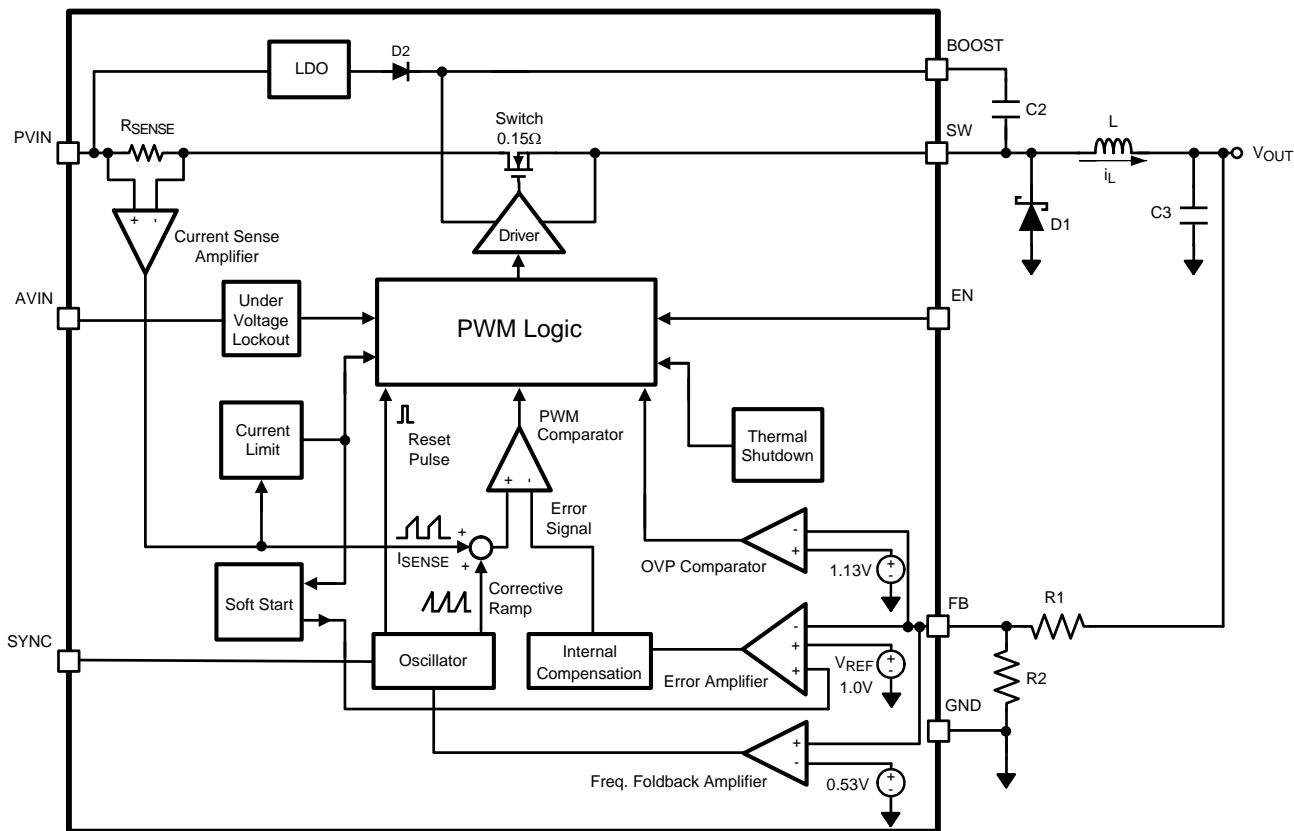
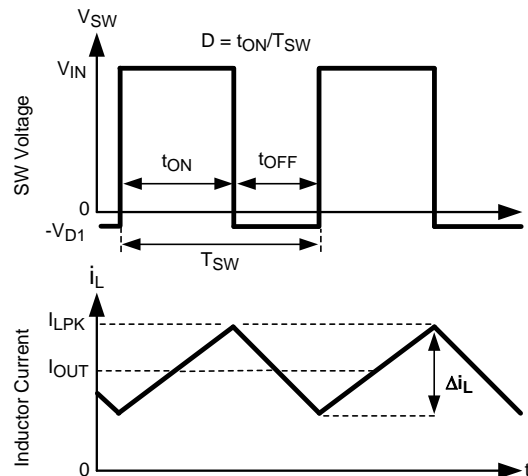

Figure 31.
Figure 32. LM27341/LM27342 Waveforms of SW Pin Voltage and Inductor Current
The following operating description of the LM27341/LM27342 will refer to the Block Diagram (Figure 31) and to the waveforms in Figure 32. The LM27341/LM27342 supplies a regulated output voltage by switching the internal NMOS switch at a constant frequency and varying the duty cycle. A switching cycle begins at the falling edge of the reset pulse generated by the internal oscillator. When this pulse goes low, the output control logic turns on the internal NMOS switch. During this on-time, the SW pin voltage (V_{SW}) swings up to approximately V_{IN} , and the inductor current (i_L) increases with a linear slope. The current-sense amplifier measures i_L , which generates an output proportional to the switch current typically called the sense signal. The sense signal is summed with the regulator's corrective ramp and compared to the error amplifier's output, which is proportional to the difference between the feedback voltage (V_{FB}) and V_{REF} . When the output of the PWM comparator goes high, the switch turns off until the next switching cycle begins. During the switch off-time (t_{OFF}), inductor current discharges through the catch diode D1, which forces the SW pin (V_{SW}) to swing below ground by the forward voltage (V_{D1}) of the catch diode. The regulator loop adjusts the duty cycle (D) to maintain a constant output voltage.
Capacitor C_2 in Figure 31, commonly referred to as C_{BOOST} , is used to store a voltage V_{BOOST} . When the LM27341/LM27342 starts up, an internal LDO charges C_{BOOST} via an internal diode, to a voltage sufficient to turn the internal NMOS switch on. The gate drive voltage supplied to the internal NMOS switch is $V_{BOOST} - V_{SW}$.
During a normal switching cycle, when the internal NMOS control switch is off (t_{OFF}) (refer to Figure 32), V_{BOOST} equals V_{LDO} minus the forward voltage of the internal diode (V_{D2}). At the same time the inductor current (i_L) forward biases the catch diode D1 forcing the SW pin to swing below ground by the forward voltage drop of the catch diode (V_{D1}). Therefore, the voltage stored across C_{BOOST} is
Inductor selection is critical to the performance of the LM27341/LM27342. The selection of the inductor affects stability, transient response and efficiency. A key factor in inductor selection is determining the ripple current (Δi_L) (see Figure 32).
Secondly, the slope of the ripple current affects the current control loop. The LM27341/LM27342 has a fixed slope corrective ramp. When the slope of the current ripple becomes significantly less than the converter's corrective ramp (see Figure 31), the inductor pole will move from high frequencies to lower frequencies. This negates one advantage that peak current-mode control has over voltage-mode control, which is, a single low frequency pole in the power stage of the converter. This can reduce the phase margin, crossover frequency and potentially cause instability in the converter. Contrarily, when the slope of the ripple current becomes significantly greater than the converter's corrective ramp, resonant peaking can occur in the control loop. This can also cause instability (Sub-Harmonic Oscillation) in the converter. For the power supply designer this means that for lower switching frequencies the current ripple must be increased to keep the inductor pole well above crossover. It also means that for higher switching frequencies the current ripple must be decreased to avoid resonant peaking.